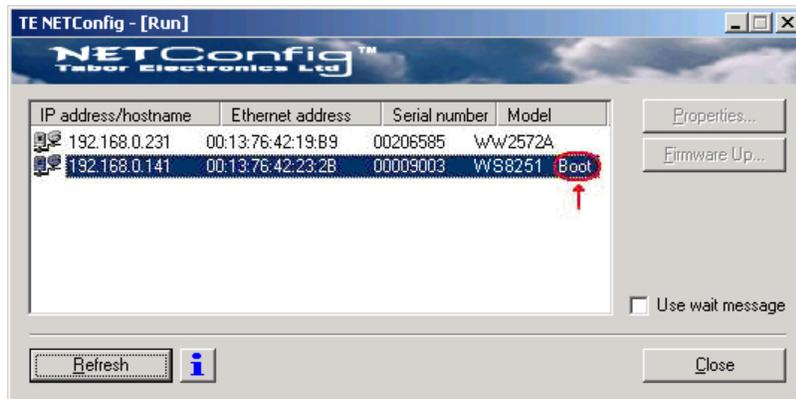

Figure 7-6, WW8251 has been Detected on the LAN Network
5. As soon as the progress bar reached the far right hand of the bar, click on the Refresh button. If your device was connected and booted correctly, the device address will appear in the device list, as shown in Figure 7-6.